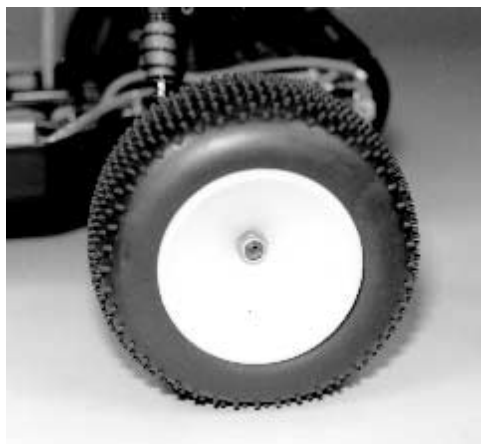

Fig. 206
□ **Fig. 206** Now we can install your rear wheels and tires onto the rear axles. All kits will install the same way. Line up the slots in the back of the wheels with the rollpin in the rear axle. Now press the wheel and tire on until the wheel seats over the roll pin. In bag #7-8 you will find two #6296 8-32 aluminum nylock rear axle locknuts. Thread one locknut onto each rear axle to secure the wheels and tires after they have been installed. An 11/32" nut driver #SP-82 will make it easier to tighten the nuts.